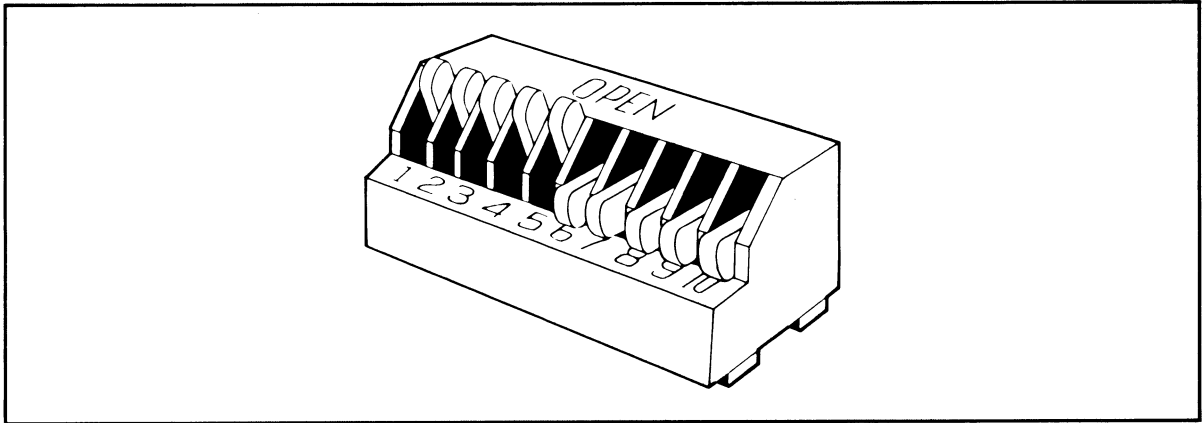

Figure 2-6 Dipswitches 1 through 5 Open; 6 through 10 Closed
3. Set dipswitches 1 through 4 using the settings described in Tables 2-2 and 2-3. (Figure 2-6 illustrates closed and open dipswitches.)